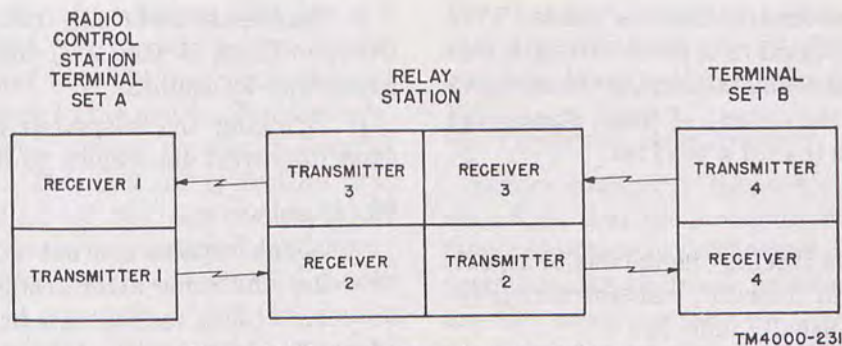
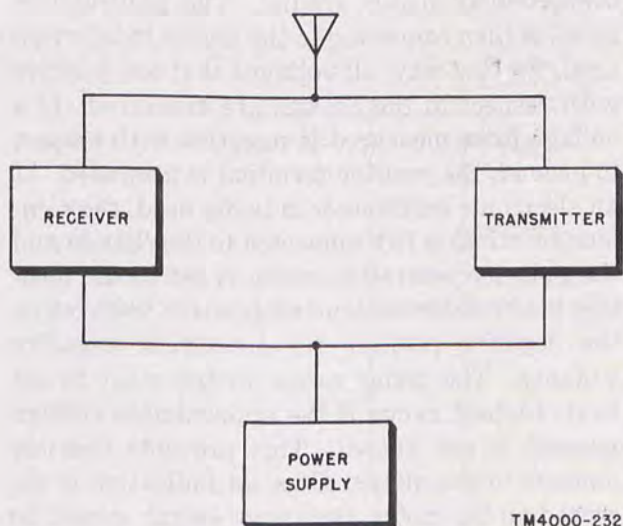

Figure 48. Radio-relay system, block diagram.
Figure 49. Radio set, block diagram.
- (1) If receiver 4 (fig. 48) is not producing a signal at its output, receiver 4 operator requests the operator at transmitter 4 to use the order line to ask receiver operator 3 to alert transmitter 2 operator. Transmitter 2 operator will check his transmitter by observing the meter indications. If the transmitter is normal, receiver 4 is probably defective.
- (2) At the same time, the technician at receiver 4 begins to troubleshoot the receiver, by following the procedure in *b* below. He can also make some simple tests. For example, if the receiver is completely dead, the receiver is at fault. If there is a noise at the receiver output when the gain control is advanced to maximum, the defect is in the RF, mixer, local oscillator, or antenna system.
- (3) In this way, by using the order line for communicating between terminal sets and the relay station, the trouble can be sectionalized to a component in any part of the system.
b. Sectionalization in a Radio Set. Many radio sets have a common antenna and a common power supply (fig. 49).
- (1) If the transmitter and receiver do not produce any output, the power supply is probably at fault.